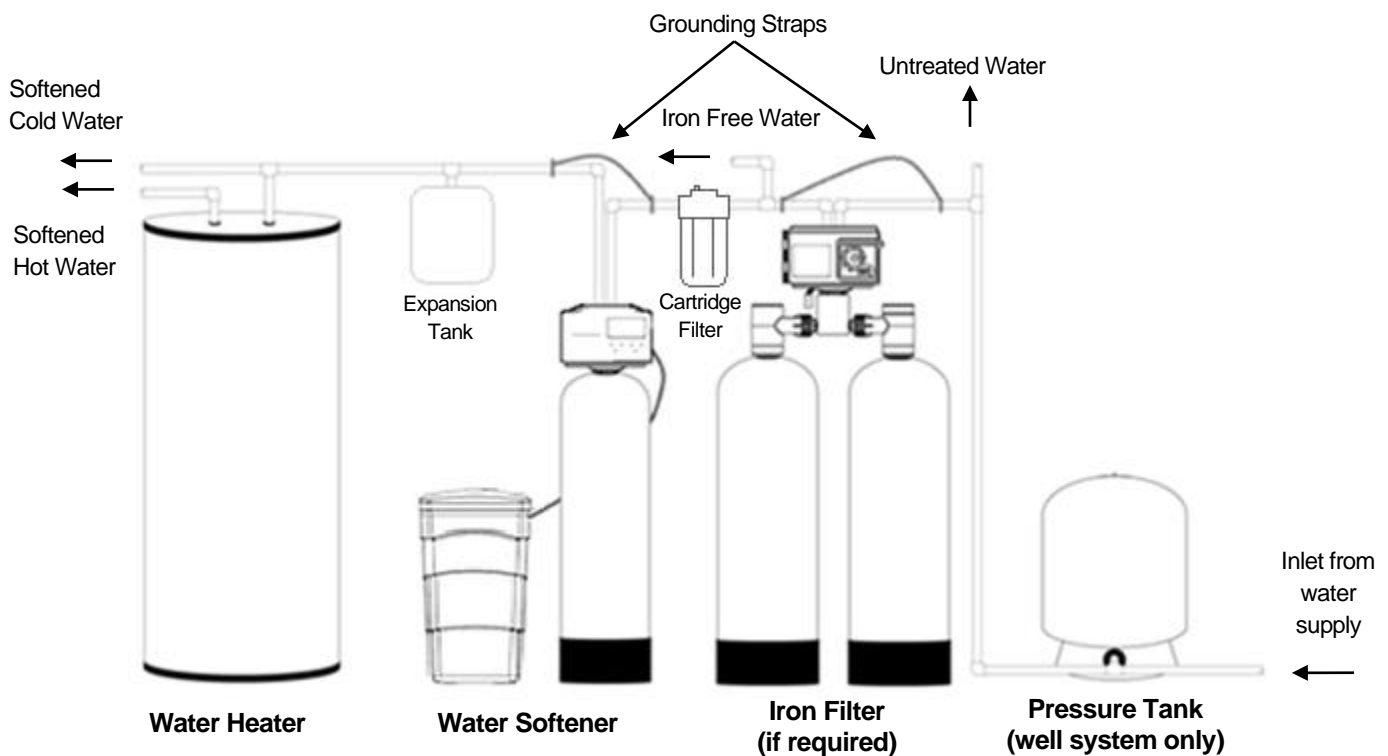

FIGURE 1: Typical Installation
6. Appliances requiring extended periods of continuous or high flow water use (i.e. geothermal heat pumps, swimming pools, lawn irrigation, outside hose bibs, etc.) should bypass the water softener. (see installation diagram Fig. 1).